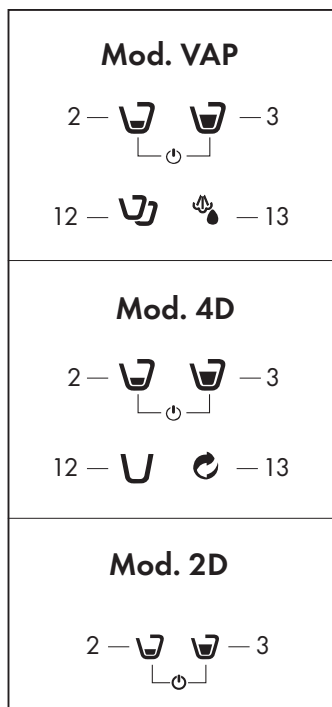

Fig. 5
- Press a symbol (2-3) to switch the machine on. The icons will flash intermittently until the correct temperature is reached; when the symbols (2-3-12-13) come on steady, the machine is ready for use (**Fig. 5**)
To use the machine again, press a symbol (2-3) and wait for the machine to warm up: the delivery symbols (2- 3-12-13) will flash intermittently until the correct temperature is reached; when the symbols (2- 2- 12- 13) come on steady, the machine is ready for use. (**Fig. 5**)
The machine can be switched off by pressing and holding down at the same time symbols (2-3) (**Fig.5**)
- Check that there are no capsules inside the machine and that there is water in the tank (8); switch on the machine by pressing the symbol (2-3) (**Fig. 5**)